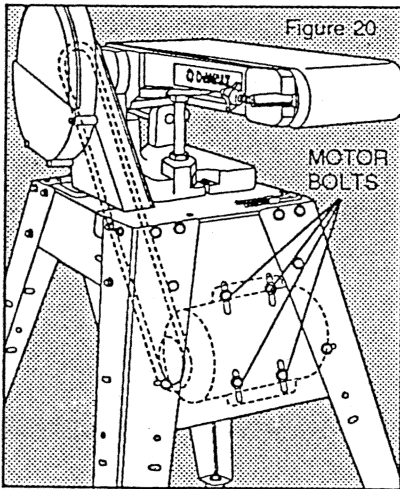

Figure 20
**"V" BELT TENSION ADJUSTMENT:** The "V" drive belt should deflect about one inch at the midpoint between the pulleys with finger pressure. To adjust the belt tension loosen the 4 bolts which fasten the motor to the stand. Slide the motor in the slots on the motor base until the correct tension is achieved, then tighten the bolts firmly. See Figure 20.